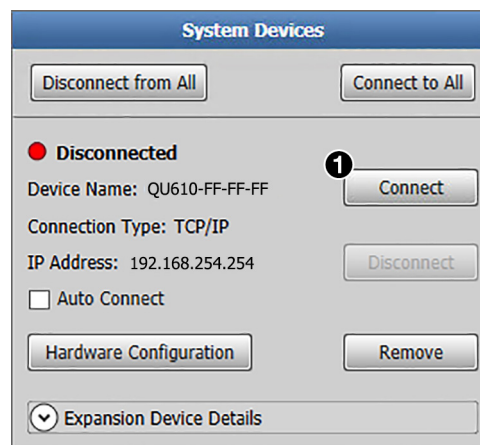

Figure 88. Connect Button in System Devices Panel
- The first card of each secondary chassis is always an Expansion IN card (6). This card cannot be changed.
10. When finished configuring primary and secondary chassis, click **Add** (7). The window closes and the expansion system is added to the **System Devices** panel.
11. When ready to apply the new project to the expansion system, click **Connect** in the **System Devices** panel (see figure 88, 1).